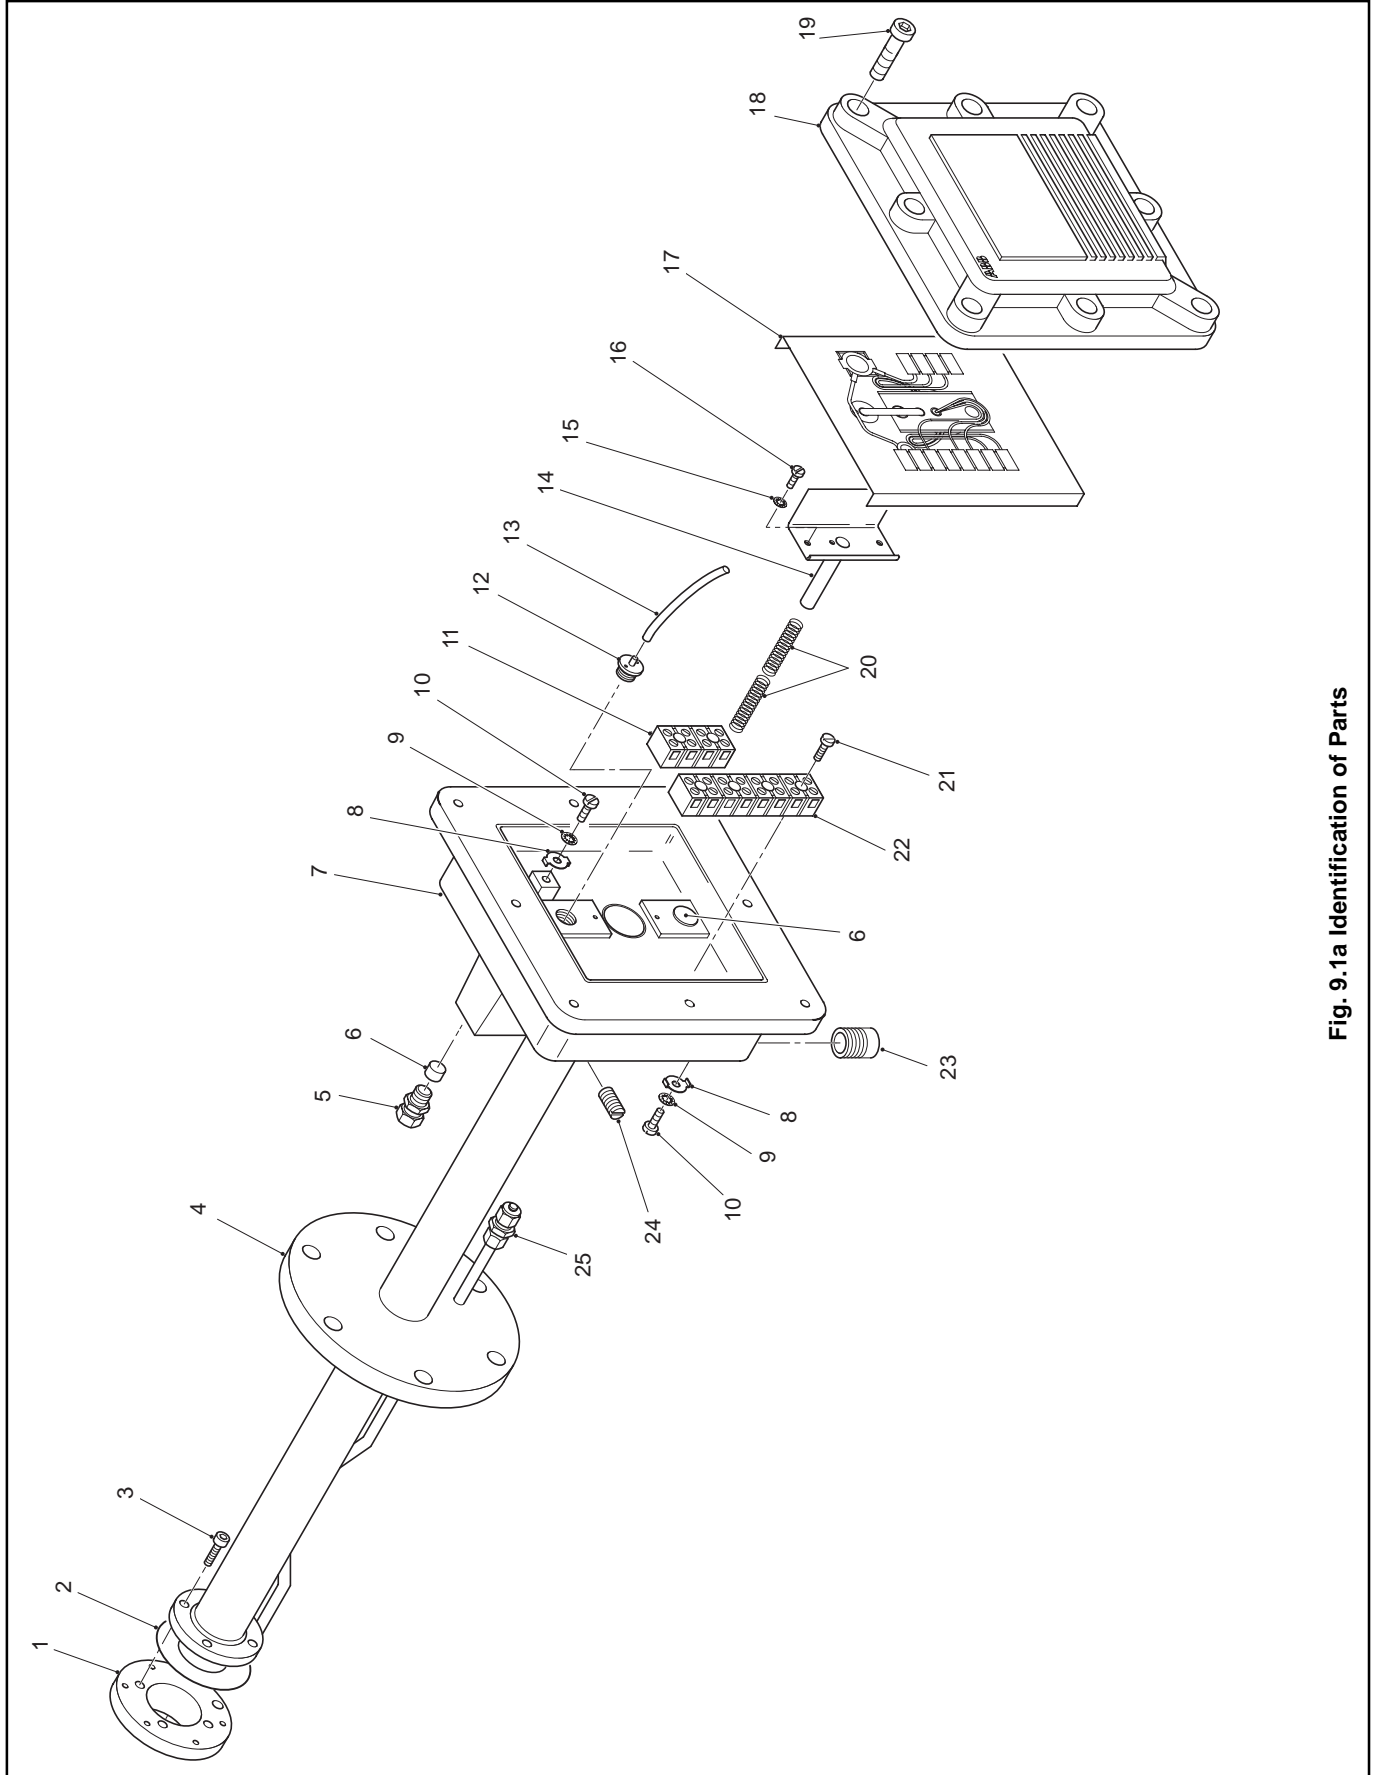

Fig. 9.1a Identification of Parts
9.1 Illustrated Parts List – Fig. 9.1a and 9.1b
... 9.1 Illustrated Parts List – Figs. 9.1a and 9.1b